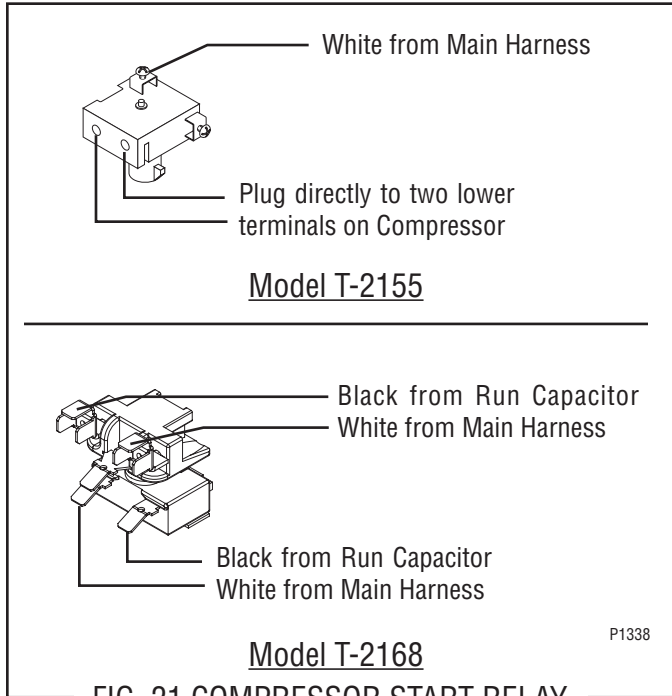

FIG. 21 COMPRESSOR START RELAY TERMINALS
3. Pull relay (1) off of the compressor pins and discard.
5. Refer to Fig. 21 and reconnect the wires.
6. Reinstall terminal cover (4) and cover retainer (5).